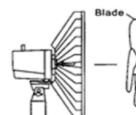
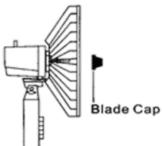

Fig. 3
Fig. 4
- 03.** Slide blade on motor shaft and secure with blade cap by turning anti-clockwise. (Fig3 and Fig 4)